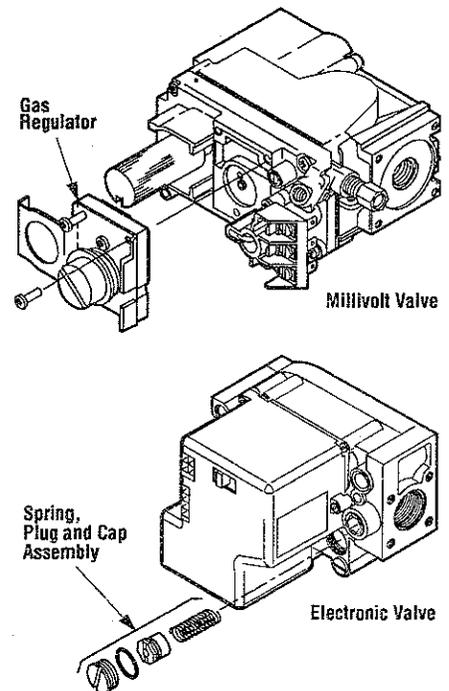

Figure 34
**Step 4. Millivolt Appliances** - Refer to the instructions provided with the kit and replace the interchangeable gas regulator assembly on the front of the valve, (refer to Figure 34).
**Step 5. Electronic Models** - Refer to the instructions provided with the kit and replace the existing spring, plug and cap assembly (refer to Figure 34) to convert the valve. Black cap and red spring for Propane gas units and Silver cap and red spring for Natural gas units.